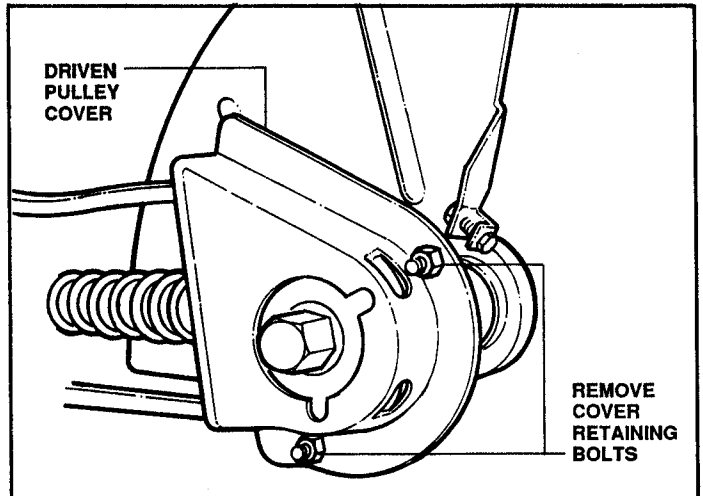

FIGURE 11
4. Remove the driven pulley cover. See Figure 11.